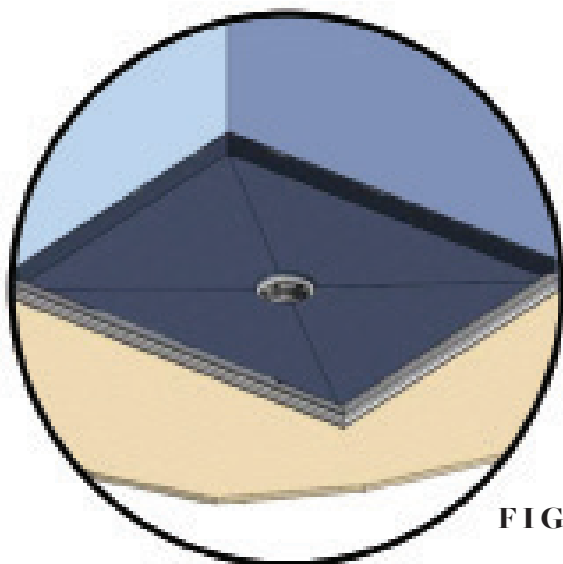
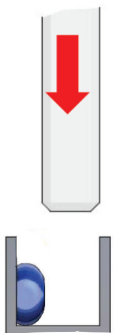

FIG 2.
FIG 13.
- Ensure inside face of the upstand is flush with the Gib (FIG 2).
- When panels are correctly aligned, remove panel 1 (FIG 2), and run a thick continuous line of silicone down the inside of the wall channel (FIG 13) and apply liberally in the floor to wall channel join.